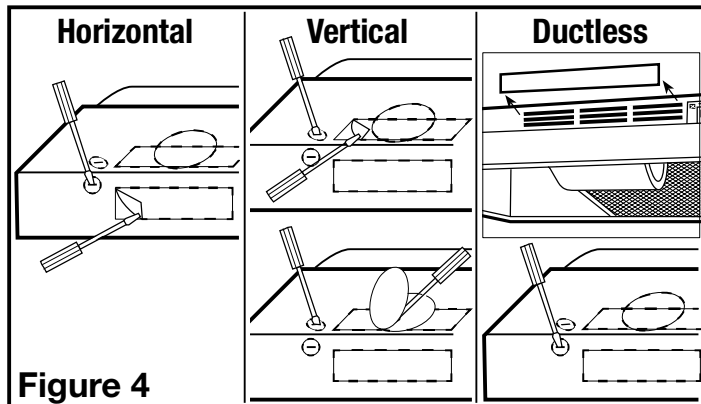

Figure 4
- Horizontal or Vertical** - Remove the square knockout by inserting a screw driver under the edge and break the tabs holding it in place. Peel back with pliers (**Figure 4**).
- Ductless** - Remove the hood's front louver cover, exposing the front air slots. To remove louver slide to one side and lift the trailing edge. Do not use a screwdriver or any other object that could scratch the hood (**Figure 4**).
- 7" Round** - Remove the round knockout located on the top of the hood by inserting a screw driver under the edge and break the tabs holding it in place. Peel back with pliers (**Figure 4**).